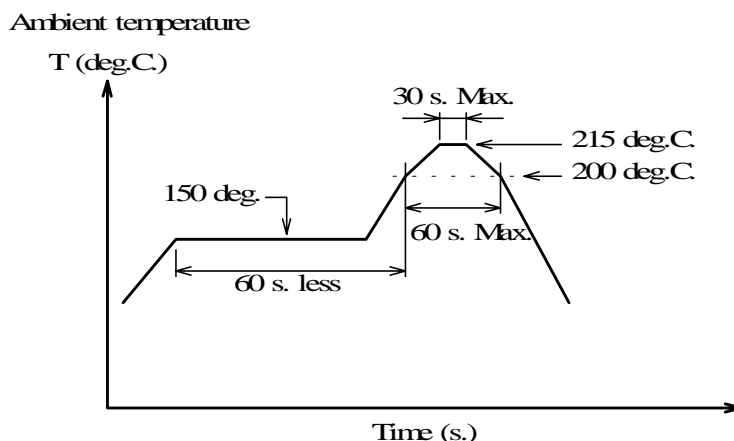

Fig.7 (Temperature Profile)
3. A recommended temperature profile for V.P.S. is shown in **Fig.7**.